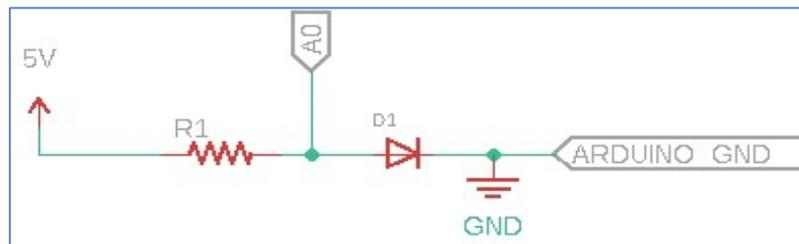

Figure 5: Schematic for resistor and diode in series
1. Follow the schematic in figure 5 to connect the diode in series with the resistor to the microcontroller